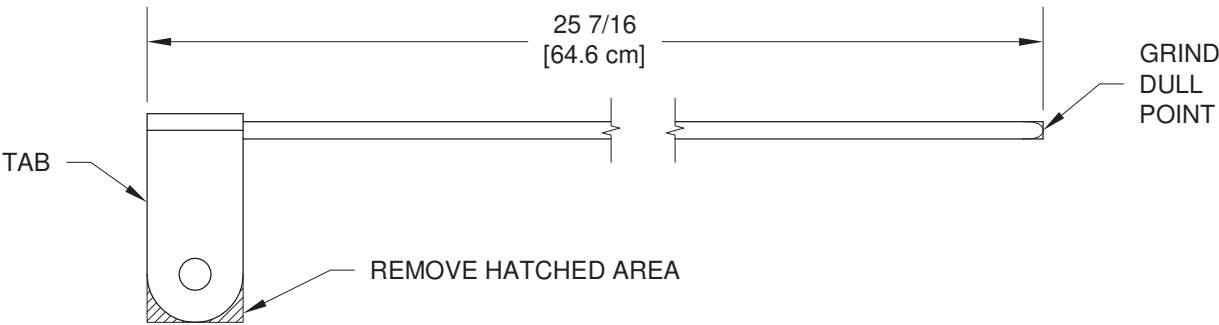

FIGURE 1: MAKING THE COWL HINGE PIN-LEFT & -RIGHT
Step 1: Trim the COWL HINGE PIN-LEFT and COWL HINGE PIN-RIGHT to the dimensions shown in Figure 1.